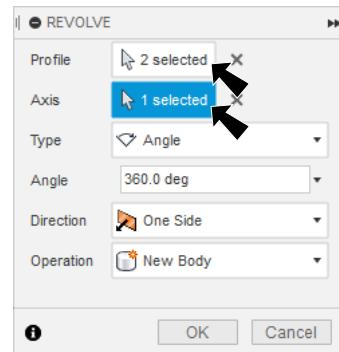

Fig. 8
Step 10. In the Revolve panel set, Fig. 8